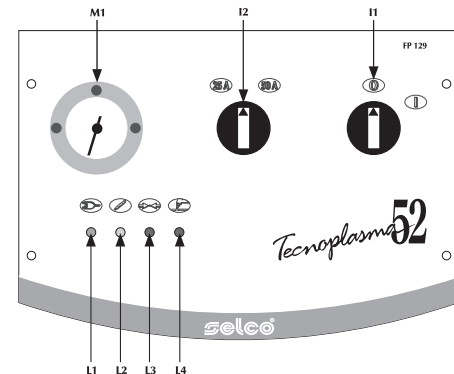

Fig. 2 Front control panel
- Turn on the apparatus, ensuring the signal LED is working correctly. Press the torch button so as to check for the presence of compressed air and pilot arc, then lift and turn the knob to adjust the pressure (F1 Fig.2) so that the reading on the manometer M1 shows a pressure of 4.8 bars; then lock the adjustment knob again.